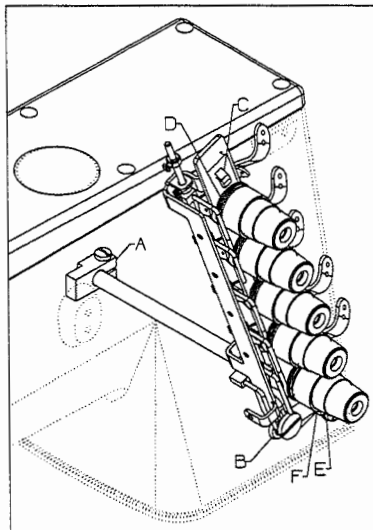

FIG 9
Set separators (C, Fig. 9) as close to tension discs (D) without touching them.
Adjust the tension release lever (A, fig. 9) to fully open the tension release and return without binding. The tension release is timed with the activation of the fabric thread trimmer.